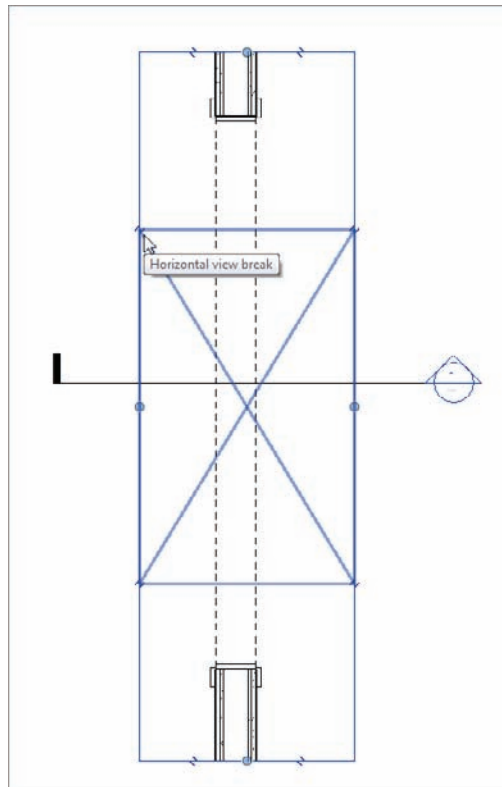

FIGURE 3.58 Splitting the section
4. With the crop region still selected, notice that there are break icons similar to the make-elbow icons in the level markers. Pick the break icon, as shown in Figure 3.58. You can now slice part of the section away, resulting in two separate cropped regions.